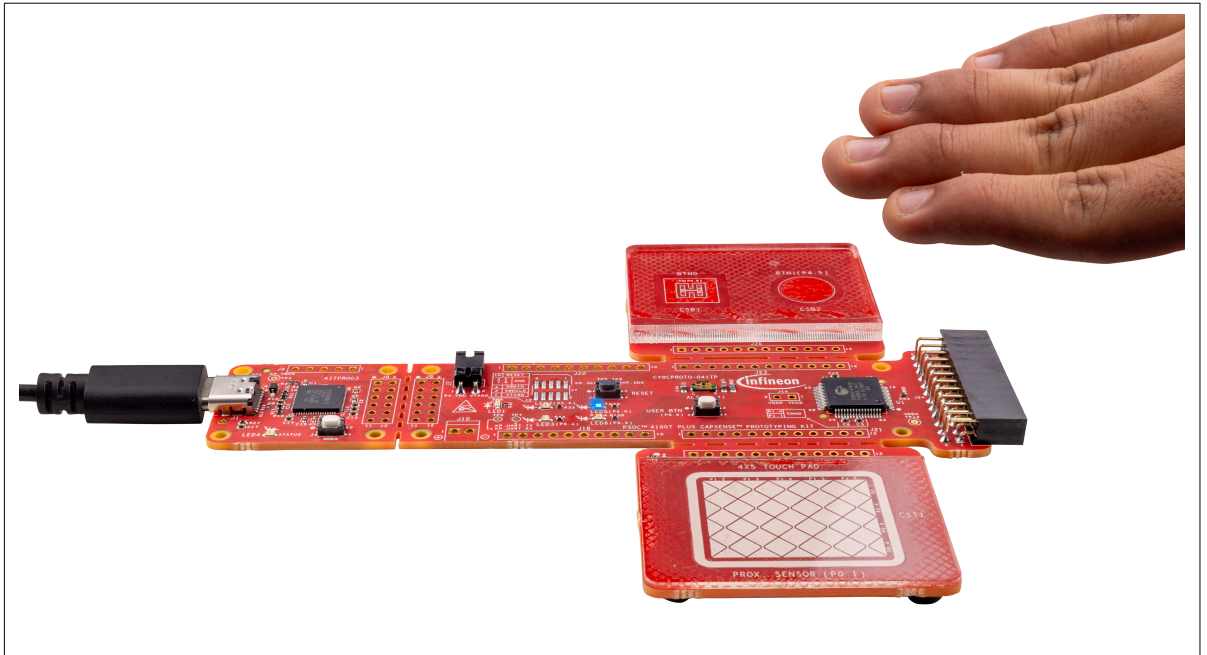

Figure 10 Capacitive proximity operation with LED indication
4. Hover your hand over the capacitive proximity sensor and observe that the brightness of LED5 (blue) changes with the proximity, as shown in Figure 10